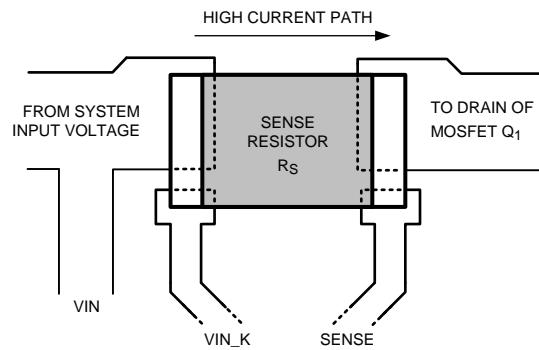

Figure 52. Sense Resistor Connections
5. The sense resistor (R_{SNS}) should be placed close to the LM5066I. A trace should connect the VIN pad and Q_1 pad of the sense resistor to VIN_K and SENSE pins, respectively. Connect R_{SNS} using the Kelvin techniques as shown in Figure 52.